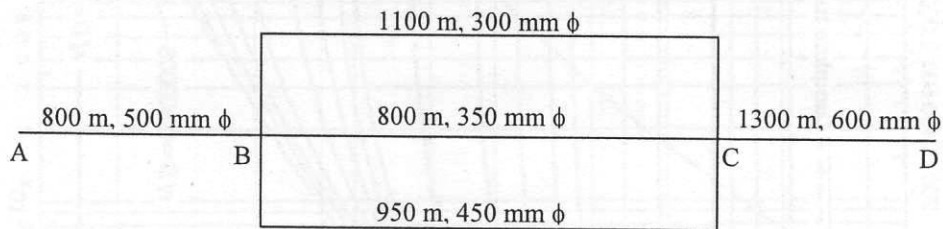

Figure 5
8. (a) The pipes in the system shown in figure 5 are all new cast iron ( $e = 0.25 \text{ mm}$ ). With a flow of  $0.70 \text{ m}^3/\text{s}$ , find the head loss from B to C. Given  $\nu = 1.14 \times 10^{-6} \text{ m}^2/\text{s}$ . (15)